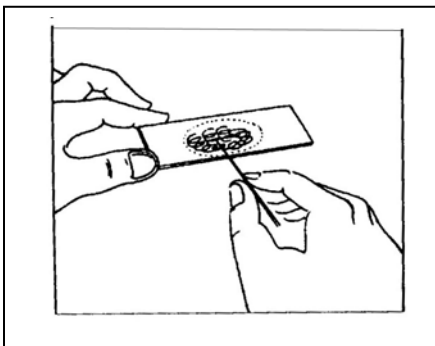

Fig. 8
- With the stick, spread the sputum evenly to cover 2/3 of the central portion of the slide, using a continuous movement. (Fig 8)